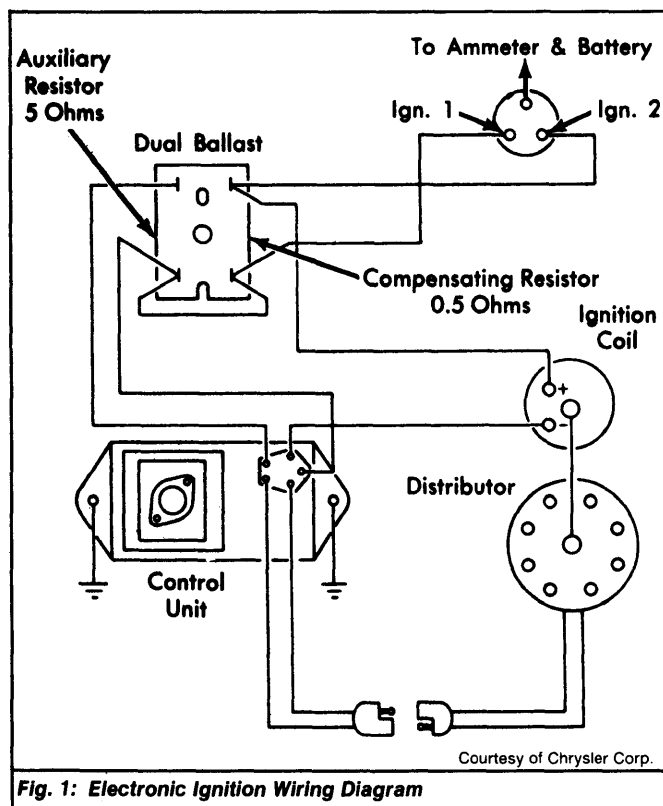

Fig. 1: Electronic Ignition Wiring Diagram
- 3) If voltage is not within limits, check wire between terminal No. 1 at connector and ballast resistor. Also check wire between ballast resistor and ignition switch (Ign. 1 connection) and wire between ignition switch, ammeter, and battery. See Fig. 1.
- 5) Also check wire between positive side of coil to ballast resistor. Check wire between ballast resistor and ignition switch (Ign. 1 connection) and wire between ignition switch, ammeter, and battery. See Fig. 1.
- 7) Also check wire between ballast resistor and ignition switch (Ign. 1 connection) and wire between ignition switch, ammeter, and battery. See Fig. 1.